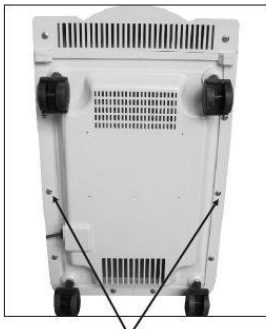

Figure 7
- Make concentrator horizontal; unscrew 10 fixing screws in the bottom. (Figure 7)